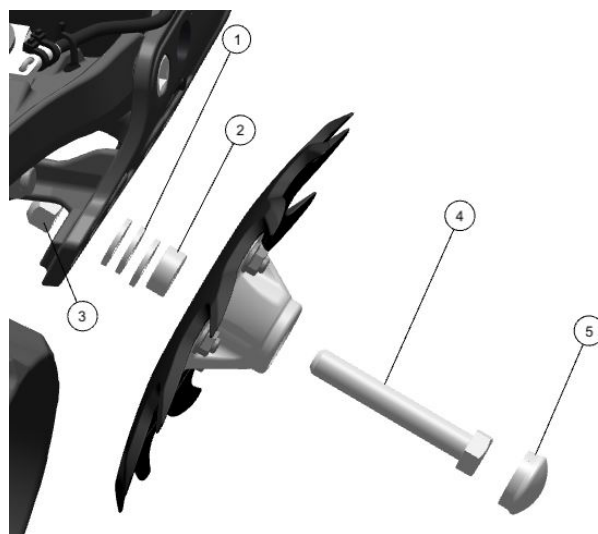

Figure 2.
For systems that **WILL** be running in rocky conditions, install **three washers** (1) and **one spacer** (2) between each wheel and the casting as shown in Figure 2. This will result in a wheel spacing of approximately 2.75” and further reduce the occurrence of a rock plug between the first stage wheels.